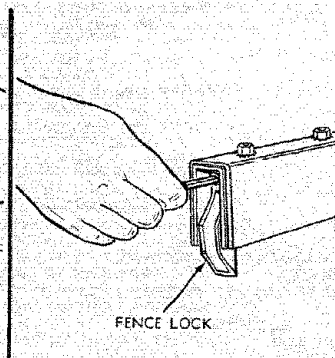

Figure 26
- (2) Using a 5/32-inch hex-L wrench, loosen the set screw at the rear of the fence approximately two turns. (See figure 26.) This screw is located in the fence lock just inside the channel, as shown.